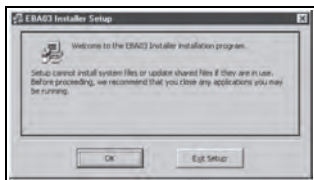

Figure 4-5 Second Software Install Screen
2. Once the files are copied, the second screen shown in Figure 4-5 will appear.